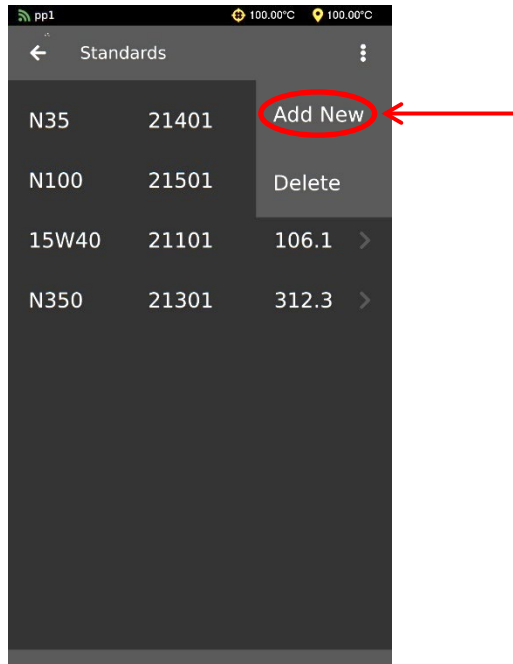

Figure 24: UltraVIS Add New Standard
4. From the **Standards Menu**, select **Add New**. See Figure 24.